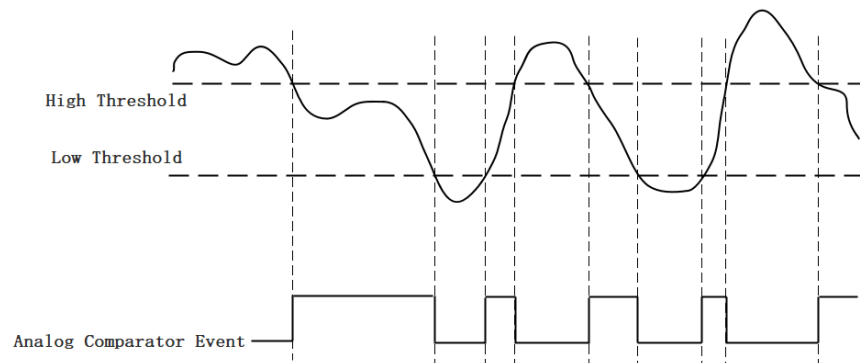

Figure 47 Entering Window Trigger
**Entering Window Trigger:** The window comparator output is high when the signal enters the window defined by the *Low Threshold* and *High Threshold*. The output will change to low when the signal leaves the window as shown in Figure 47.